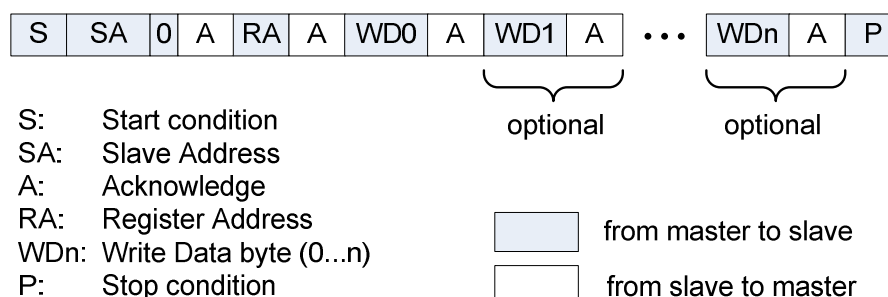

Figure 13: I2C Write
The format of the I2C read is given in Figure 13. After the start condition [S], the slave address (SA) is sent, followed by an eighth bit ('0') indicating a Write. The SX9500 then Acknowledges [A] that it is being addressed, and the Master responds with an 8-bit Data consisting of the Register Address (RA). The Slave Acknowledges [A] and the master sends the Repeated Start Condition [Sr]. Once again, the slave address (SA) is sent, followed by an eighth bit ('1') indicating a Read. The SX9500 responds with an Acknowledge [A] and the read Data byte (RD0). If the master needs to read more data it will acknowledge [A] and the SX9500 will send the next read byte (RD1). This sequence can be repeated until the master terminates with a NACK [N] followed by a stop [P].